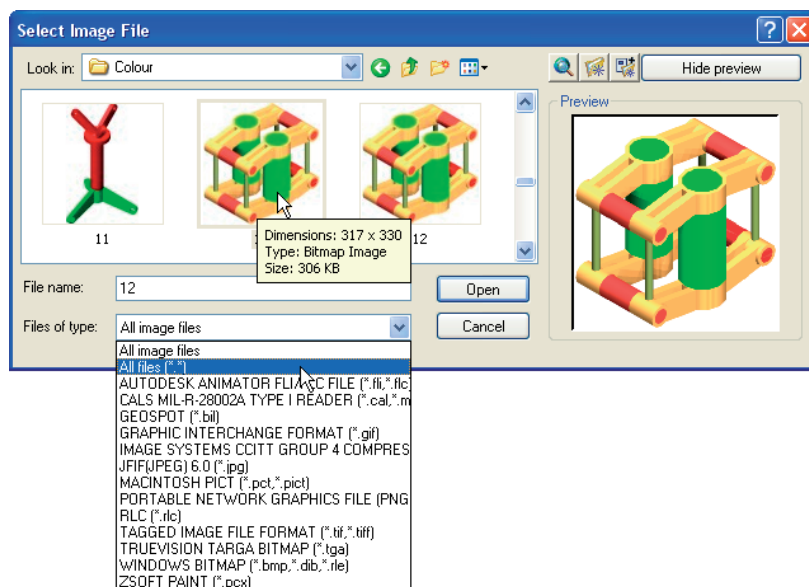
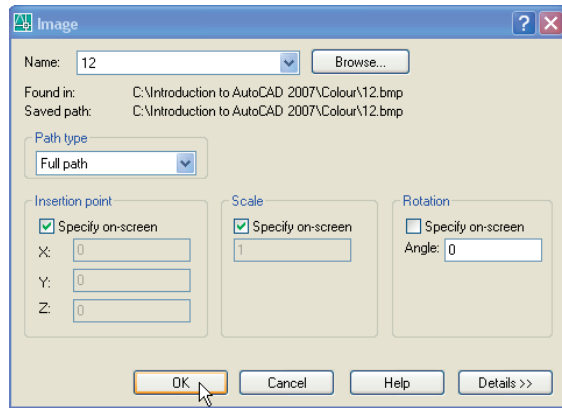
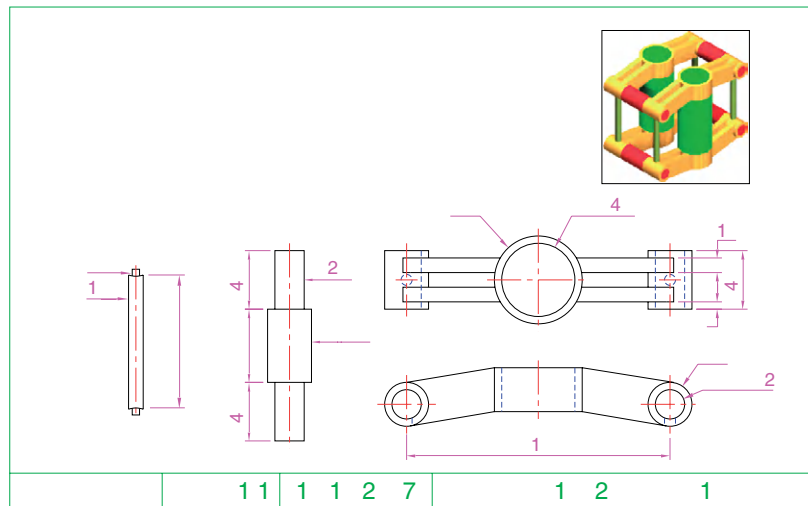

Fig. 20.3 The **Select Image File** dialog
Fig. 20.4 Example – **Raster image in a drawing** – the Image dialog
Fig. 20.5 Example – **Raster image in a drawing**
Example – Raster image in a drawing (Fig. 20.5)
Raster images are graphics images such as those taken from files ending with the file extensions ***.bmp**; ***.pcx**; ***.tif** and the like. The types of graphics files which can be inserted into AutoCAD drawings can be seen by first *clicking* on **Raster Image Reference...** in the **Insert** drop-down menu (Fig. 20.2), which brings the **Select Image File** dialog (Fig. 20.3) on screen. In the dialog *click* the arrow to the right of the **Files of type** field and the popup list appears which lists the types of graphics files which can be inserted into AutoCAD drawings. Such graphics files can be used to describe in 3D the details shown in 2D by a technical drawing.
10. Open the **Select Image File** dialog and from the **Look in** field select the raster file **12.bmp** from the file list (Fig. 20.3). Another dialog (**Image**) opens (Fig. 20.4) showing the name of the raster image file. *Click* the **OK** button of the dialog and a series of prompts appear at the command line requesting position and scale of the image. *Enter* appropriate responses to these prompts and the image appears in position in the orthographic drawing (Fig. 20.5).
- Place the image in position in the drawing area. In Fig. 20.5 the orthographic projections have been placed within a margin and a title block has been added.
1. Open the orthographic drawing with its raster image (Fig. 20.5).